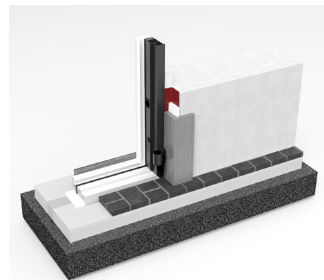

Fig. 8.
1. Glue waterproofing tape along the outer contour of the frame on 3 sides, excluding the threshold (Fig. 8) (hinge side — for reverse opening, stop side — for right/left hand opening).